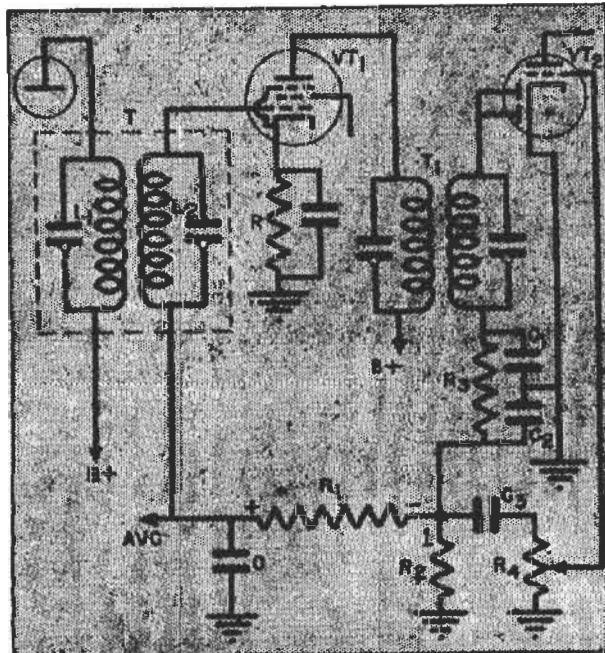

FIG. 8. An i.f. amplifier stage.
► However, an i.f. stage like that in Fig. 8 may cause distortion when overloaded. Suppose that a.v.c. filter con-
**Audio Stages.** Amplitude distortion is most commonly produced in the audio stages. Distortion caused by too much grid bias sometimes occurs in the first a.f. amplifier, which may be the triode section of  $VT_2$  in Fig. 8. During rectification, a d.c. voltage is built up across diode load resistor  $R_2$ , with point 1 negative with respect to ground. If coupling condenser  $C_3$  becomes leaky, the d.c. voltage across  $R_2$  will also appear across the volume control  $R_4$ . Then, as the slider arm on the volume control is moved towards